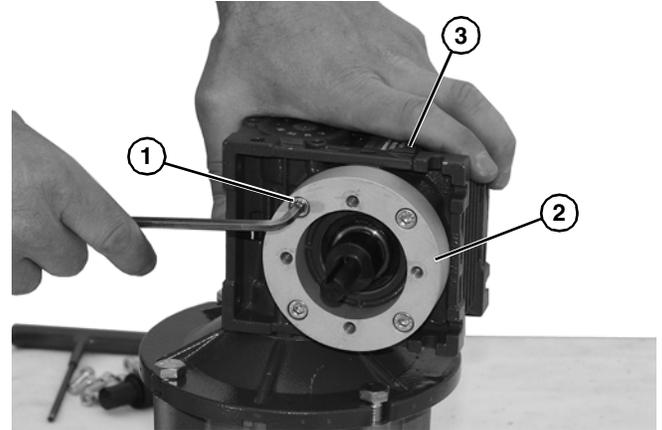

Figure 22
1. Loosen four (4) socket head screws (**Figure 22, item 1**) and detach spacer (**Figure 22, item 2**) from gear reducer (**Figure 22, item 3**).
- Install spacer (**Figure 22, item 2**) onto gear reducer (**Figure 22, item 3**) with four (4) socket head screws (**Figure 22, item 1**).